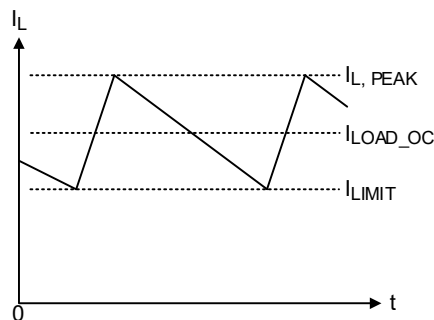

Figure 2. "Valley" Current Limit
The RT8237N features cycle-by-cycle current limit control. The current limit circuit employs a unique “valley” current sensing algorithm. If the magnitude of the current sense signal at PHASE is above the current-limit threshold, the PWM is not allowed to initiate a new cycle (see Figure 2). In order to provide both good accuracy and a cost-effective solution, the RT8237N supports temperature compensated MOSFET RDS(ON) sensing.